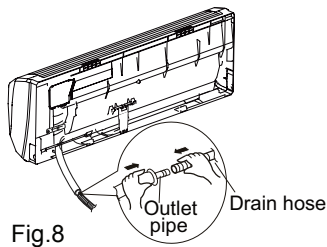

Fig. 8
(1) Connect the drain hose to the outlet pipe of indoor unit.(As show in Fig.8)